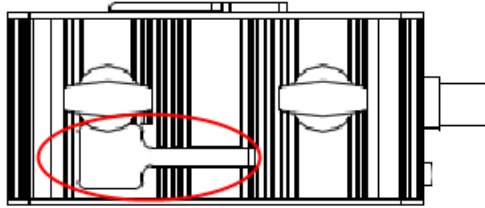

FIGURE 11
**NOTE: Use Primary USB port on top (FIGURE 11), not on side (Secondary)*